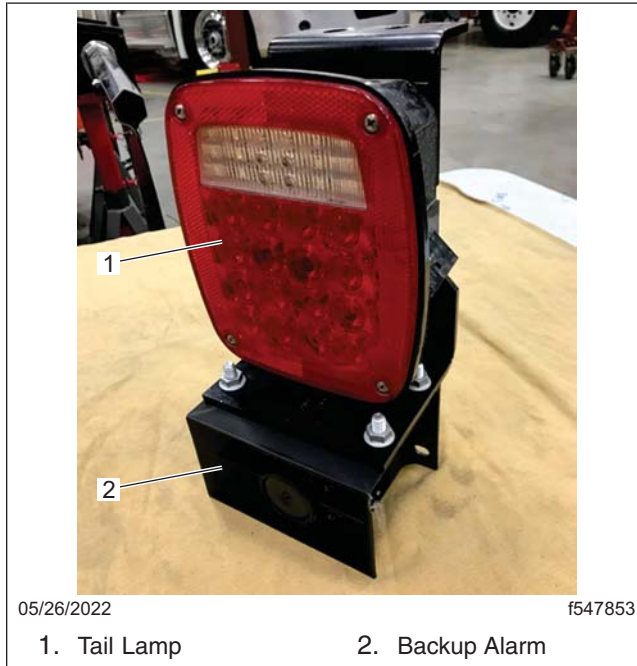

Fig. 3, Right Hand Tail Lamp and Backup Alarm Assembly Removed from the Vehicle
- Remove the right hand tail lamp and backup alarm assembly from the vehicle. See Fig. 3.